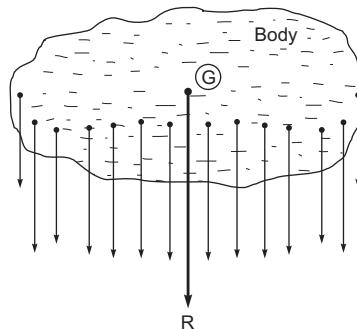

Fig. 4.1: Center of gravity (CG)
4.1.1 Center of Gravity (CG)
It has been established, since long, that every particle of a body is attract by the earth towards its centre. The force of attraction, which is proportional to the mass of the particles of the body, acts vertically downwards and known a weight of the body. As the distance between the different particles of a body & the centre of the earth is taken to be same (because of very small size of the body as compared to the earth), these forces may be taken to act along parallel lines as shown in fig. 4.1. The resultant R of all such parallel forces acts on one point G. This point through which the whole weight of the body acts, is known as center of gravity (CG), irrespective of the position of the body. It may be note that everybody has only one & one CG. If you balance the body on this point of CG, it will balance.